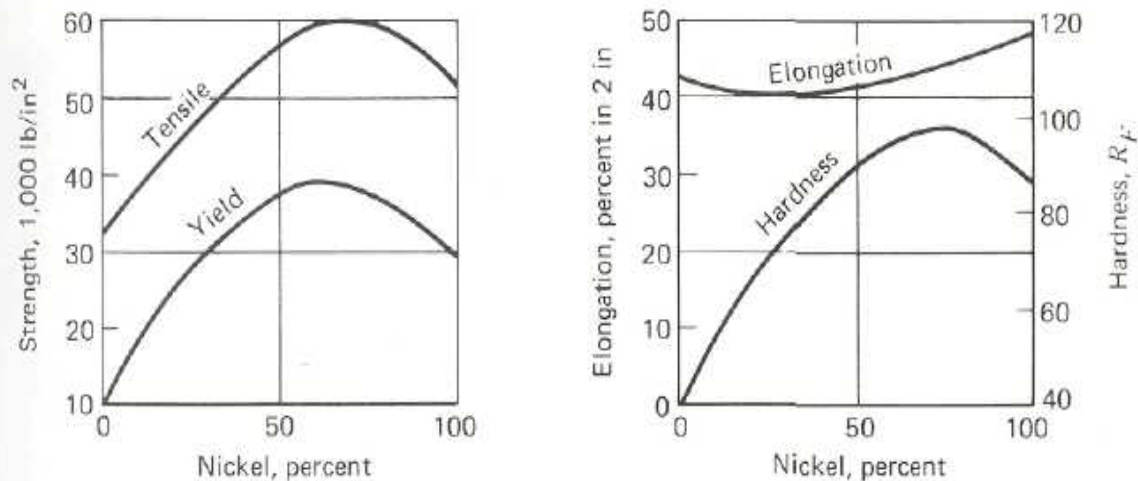

Fig. 11.1. Alloy hardening in copper-nickel alloy
**Strain hardening** (Fig. 9.1) and **alloy hardening** (Fig. 11.1) are widely used in industry, especially in **aluminum-** and **copper-based** alloys. It is possible to **augment** the mechanical **properties** of certain alloys by other solid-state reactions that can produce much greater **hardness** than is possible by alloying alone, and plastic deformation is not **required**. However, **solid-state** reactions are usually limited to certain alloys for several reasons. Relatively few alloys can be affected by a given solid-state reaction. **Eutectoid decomposition**, for instance, is rare in alloy systems other than the **iron-carbon** system.